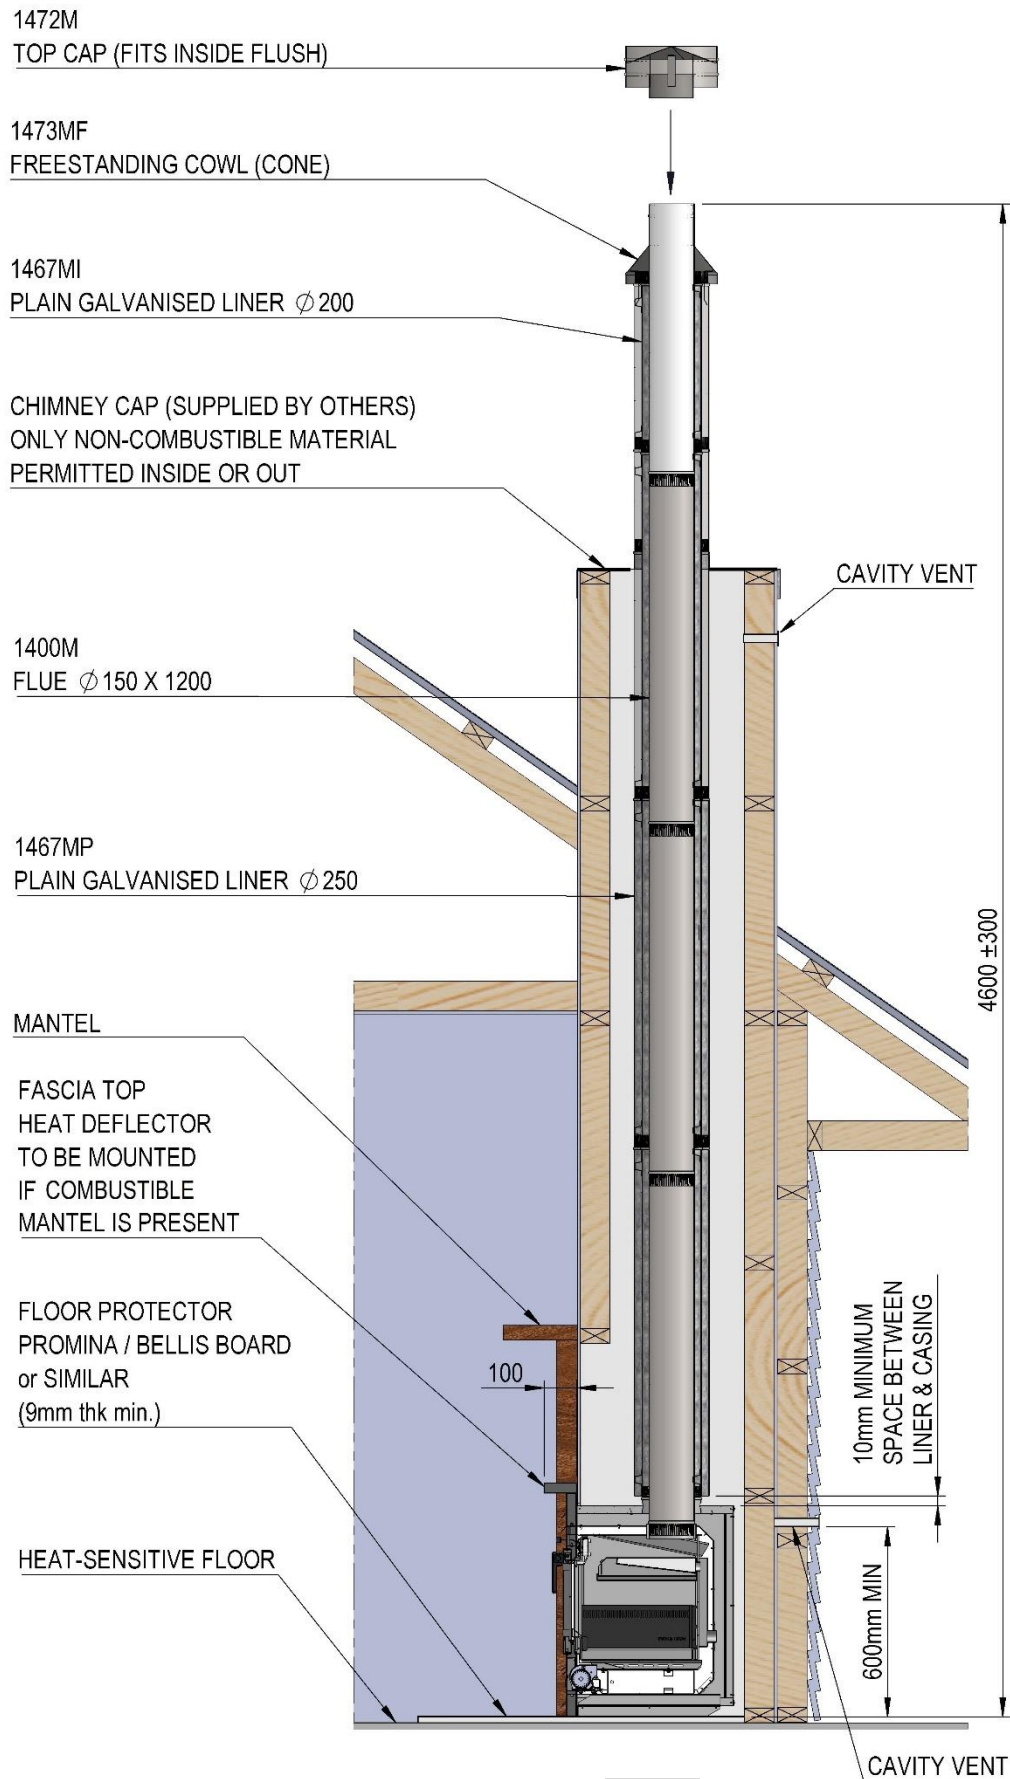

Fig. 3
- For standard flue installations (Fig. 3); if any support is required under the chimney cap, it should be constructed of non-combustible materials only.
## K. Typical Built-in (ZC) Flue Installation (Fig. 3)